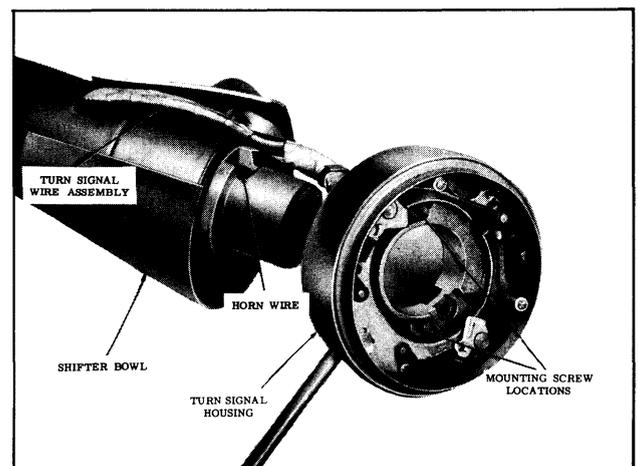

Fig. 5-97 Turn Signal Collar (Syncro-Mesh)
1. Remove turn signal collar mounting screws and remove collar and wire assembly. (See Fig. 5-97)